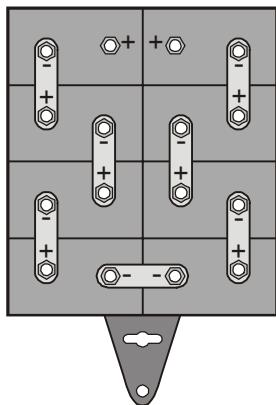

Figure 3-2
- ✓ Lay the solar cells in the black tray in the configuration shown in Figure 3-2. Viewed from the back of the tray, the (+) and (-) symbols on the cells will be visible through the round holes to assist in the correct placement.